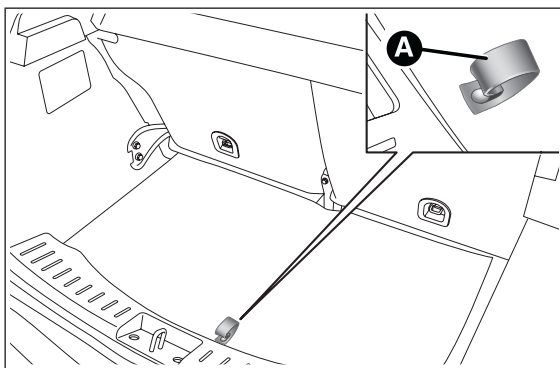

fig. 101
- ☐ open the luggage compartment, pull tab A fig. 101 and lift up the mat;